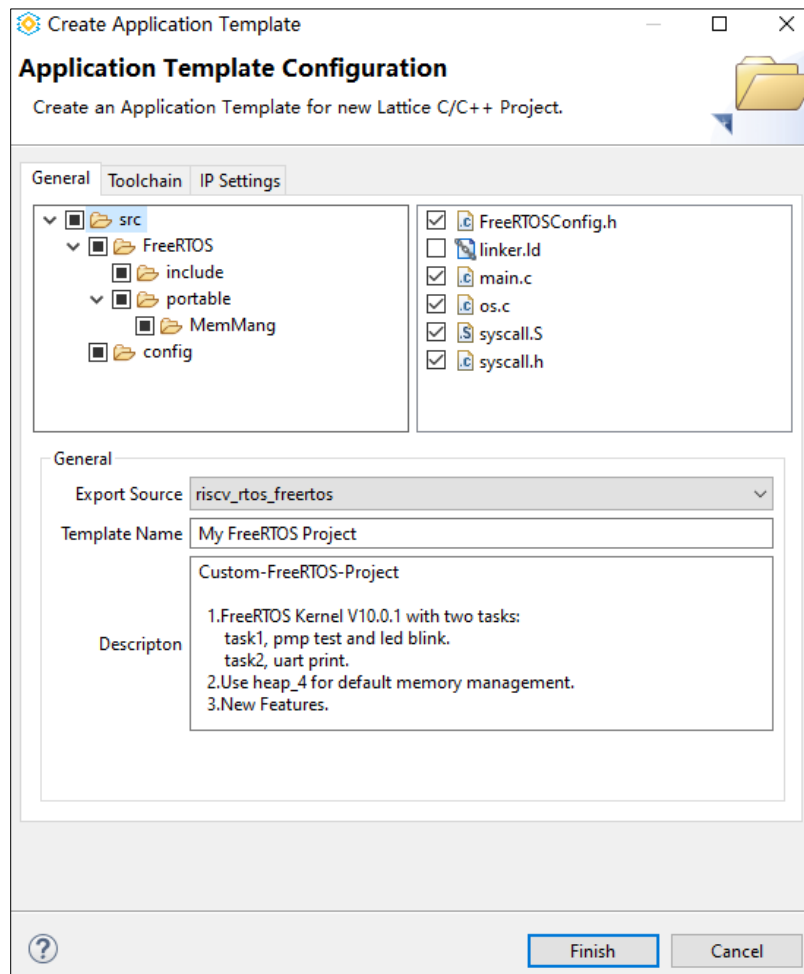

Figure 3.7. Create Application Template
1. From Lattice Propel SDK, choose **Project > Create Lattice Application Template** or right click on a project and select **Create Lattice Application Template**. The **Create Application Template** wizard opens (Figure 3.7).